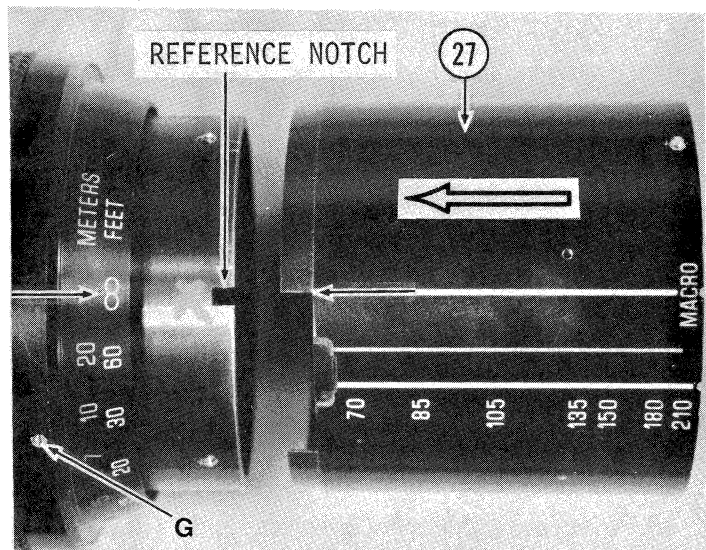

Fig. 22
- 2.3.18 Rotate Zoom Ring (22) counterclockwise to bring its infinity symbol opposite the reference notch at the rear edge of the Lens Barrel. (Fig. 22)
- 2.3.20 Slide Change Ring (27) onto Lens Barrel (4). Align yellow "macro" index line of Change Ring with infinity symbol of Zoom Ring. Then slide Change Ring forward to its stop. (Fig. 22)